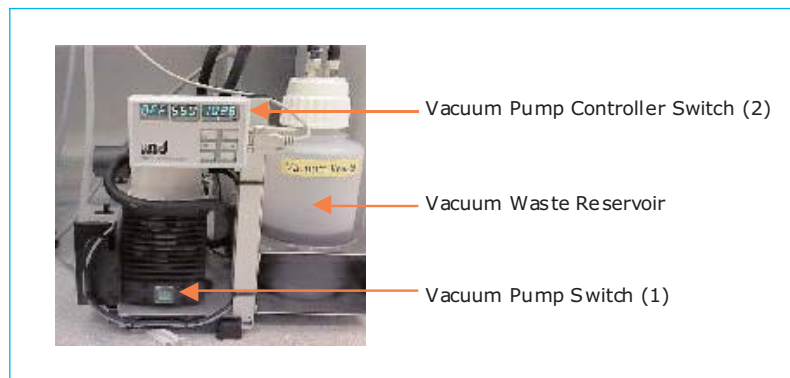

Figure 2. Location of vacuum pump switch, vacuum pump controller switch and waste reservoir
3. Turn on the vacuum pump (switch 1, Figure 2) and then the vacuum pump controller (switch 2, Figure 2).
1. Check that the vacuum waste reservoir (see Figure 2) is no more than $\frac{1}{2}$ full. To empty, remove the screw cap from the vacuum waste reservoir and empty any remaining liquid down a suitable sink according to local regulations. Re-attach to the vacuum pump and ensure that the cap is firmly screwed on.
1. Turn off the vacuum pump. First switch off the vacuum pump controller (switch 2, Figure 2) and then turn off the pump using the vacuum pump switch (switch 1, Figure 2).